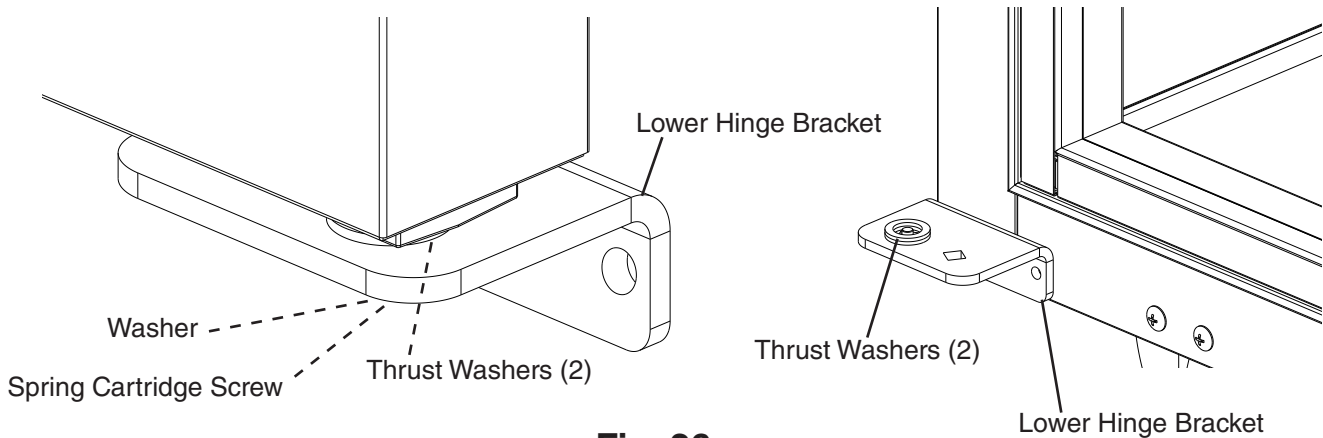

Fig. 26
- 9) Remove the lower hinge bracket spring cartridge screw, washer, and thrust washers from the door. Set the door aside. Next, secure the lower hinge bracket to the opposite side. Make sure the lower thrust washers are in place. See Fig. 26.